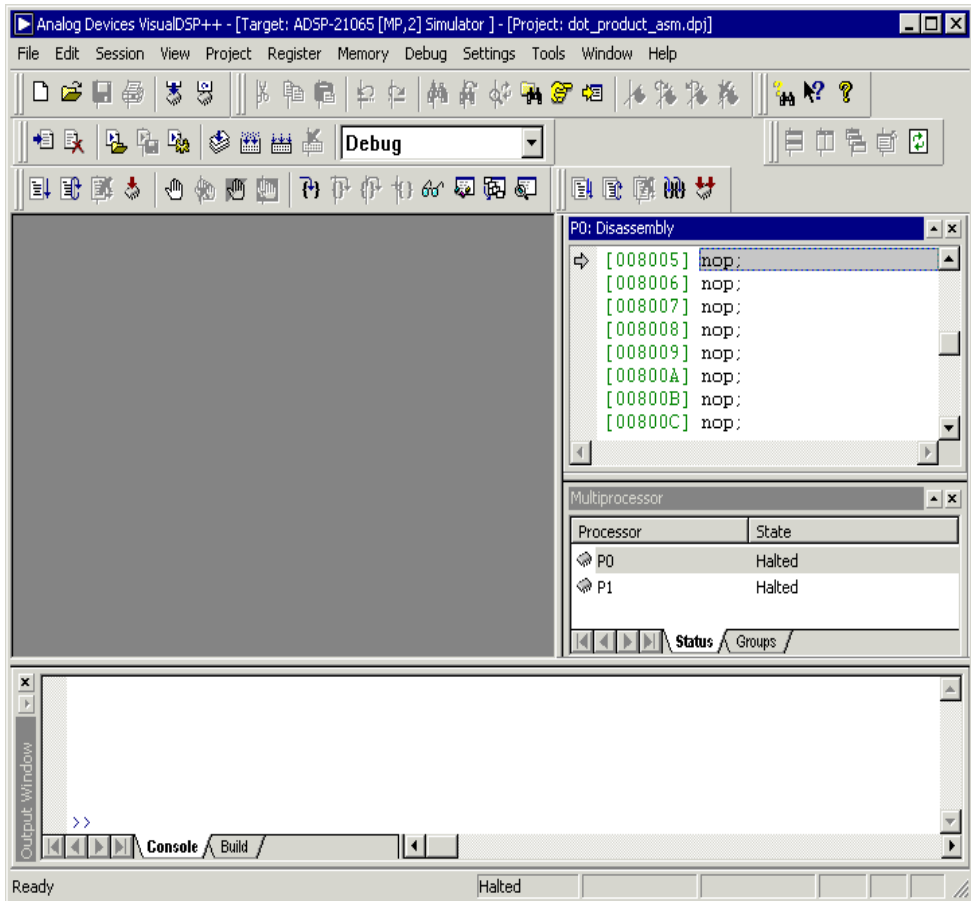
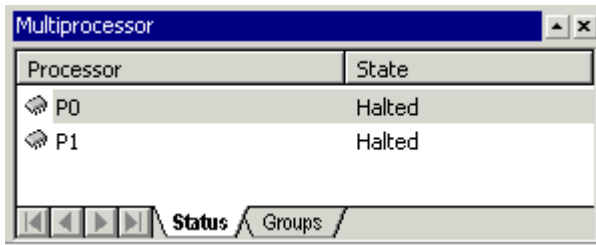
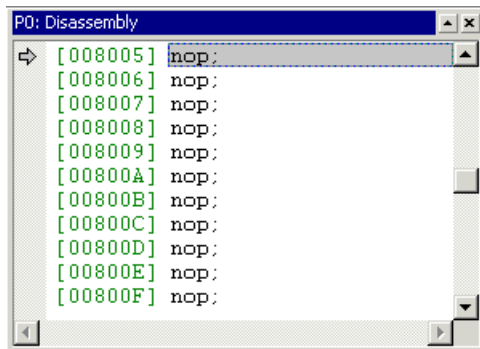

Figure 3-37. VisualDSP++ Windows: After Creating a Multiprocessor Session
Figure 3-38. Multiprocessor Window: Status Tab Page
Figure 3-39. Disassembly Window: Disassembled Instructions in Processor P0
Figure 3-37 shows the windows in the new multiprocessor session.
In Figure 3-37, the Multiprocessor window (Figure 3-38) appears under the Disassembly window in the lower-right portion of the VisualDSP++ main window.
For example, the title bar of the Disassembly window shown in Figure 3-37 and in Figure 3-39 indicates that information was collected from processor **P0**.
You can easily view data from any processor in the current session. Displaying data from a different processor in the same window is called *changing focus*. On the Multiprocessor window's **Status** tab page (Figure 3-38), the first processor listed, **P0**, is highlighted and currently *has focus* by default.
1. On the Multiprocessor window's **Status** tab page (Figure 3-38), click **P1**.
5. Select different processors from the Multiprocessor window's **Status** tab page (Figure 3-38) and notice that both Disassembly windows change focus to the currently selected processor. Also note that the `r0=0x1234;` instruction is present only when the Disassembly windows are focused on P1.
8. On the Multiprocessor window’s **Status** tab page (Figure 3-38), select processor **P1**. Notice that the bottom Disassembly window changes focus to processor P1 and that the top Disassembly window stays focused on processor P0.
1. On the Multiprocessor window's **Status** tab page (Figure 3-38), select **P0** to set focus to processor P0.